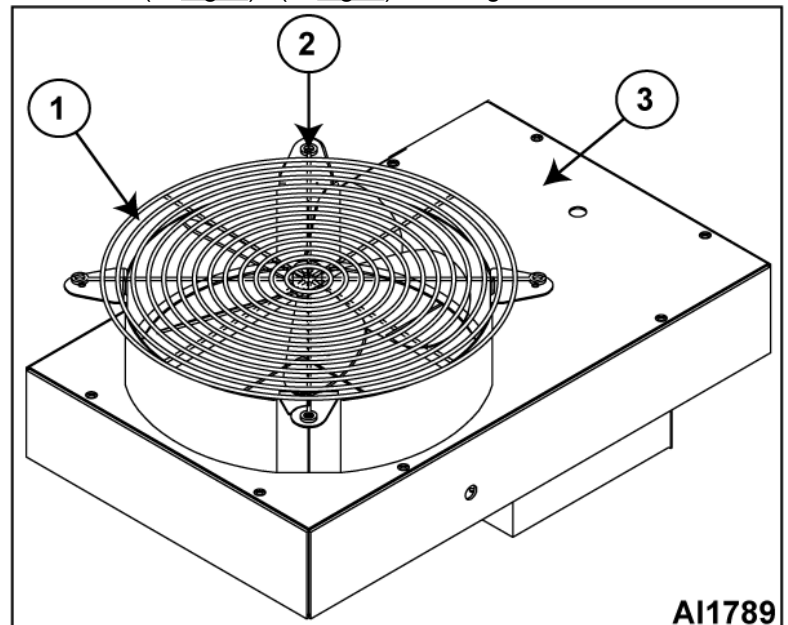
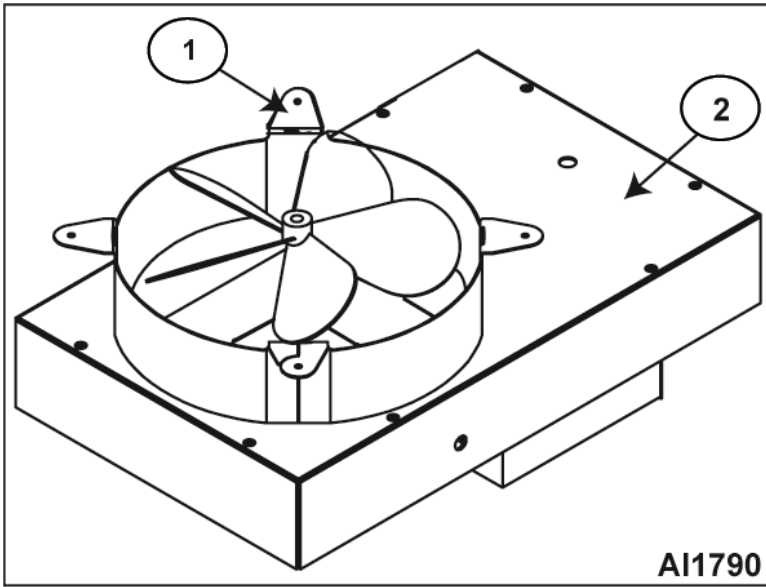

Fig. 3
Fig. 4
1. Remove four screws (2, Fig. 3) from the tabs securing fan grille (1, Fig. 3) to top of draft inducer (3, Fig. 3) / (2, Fig. 4) and lift grille off.
2. Bend the four exposed oven flue collar tabs (1, Fig. 4) vertically and secure the draft diverter to the oven flue collar with four screws.